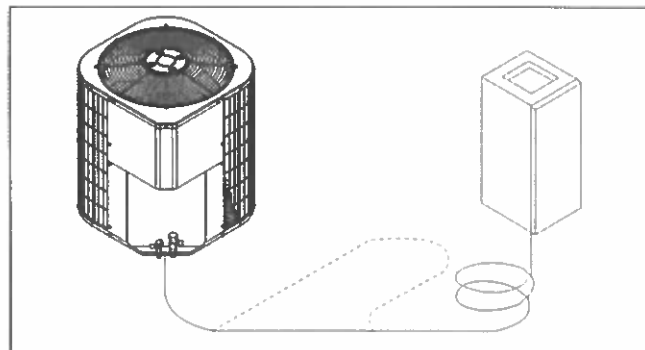

FIGURE 3: Excess Tube
- Excess tubing must be coiled horizontally so the flow of refrigerant is from top to bottom of the coil and toward the outdoor unit. Another method is to form a horizontal "U" large enough to take care of excess. See Figure 3.